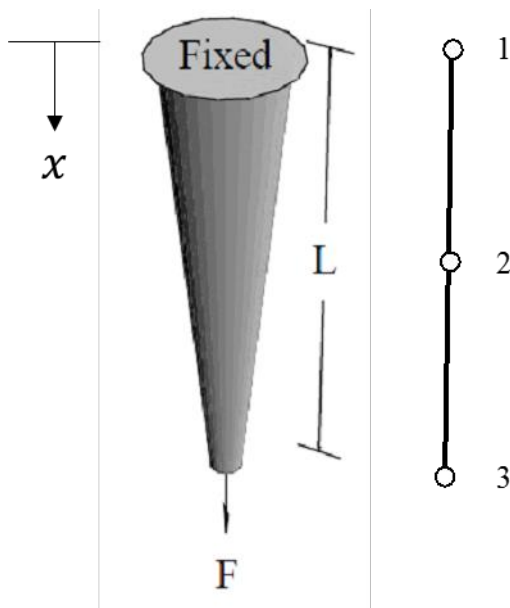

Figure 3
5. (24%) Consider problem of finding axial displacement of a truncated solid cone made of concrete, hanging under its own weight and subjected to a downward load $F = 100 \text{ kN}$ at the tip, as illustrated in Figure 3 below. Let the length $L = 5 \text{ m}$, the diameter at the top is $d_0 = 1 \text{ m}$ and changes linearly to $d_L = \frac{1}{4} \text{ m}$ at the bottom. The concrete weighs 24 kN/m^3